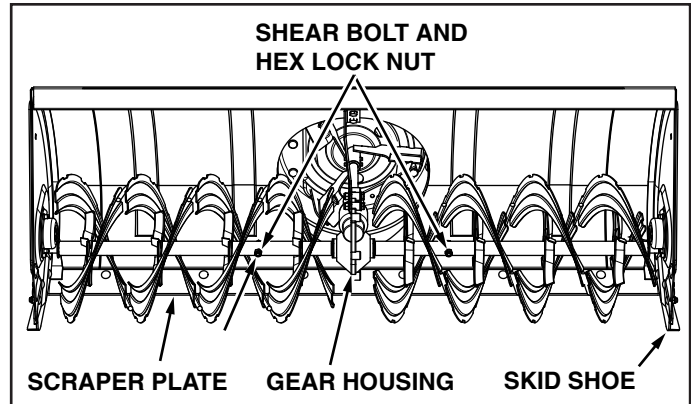

FIGURE 34
- If the augers will not turn, check to see if the shear bolts have sheared. See figure 34. Two replacement shear bolts and nylock nuts have been provided with the snow thrower. For future use order part number 710-0890A shear bolt and number 47810 nylock nut.